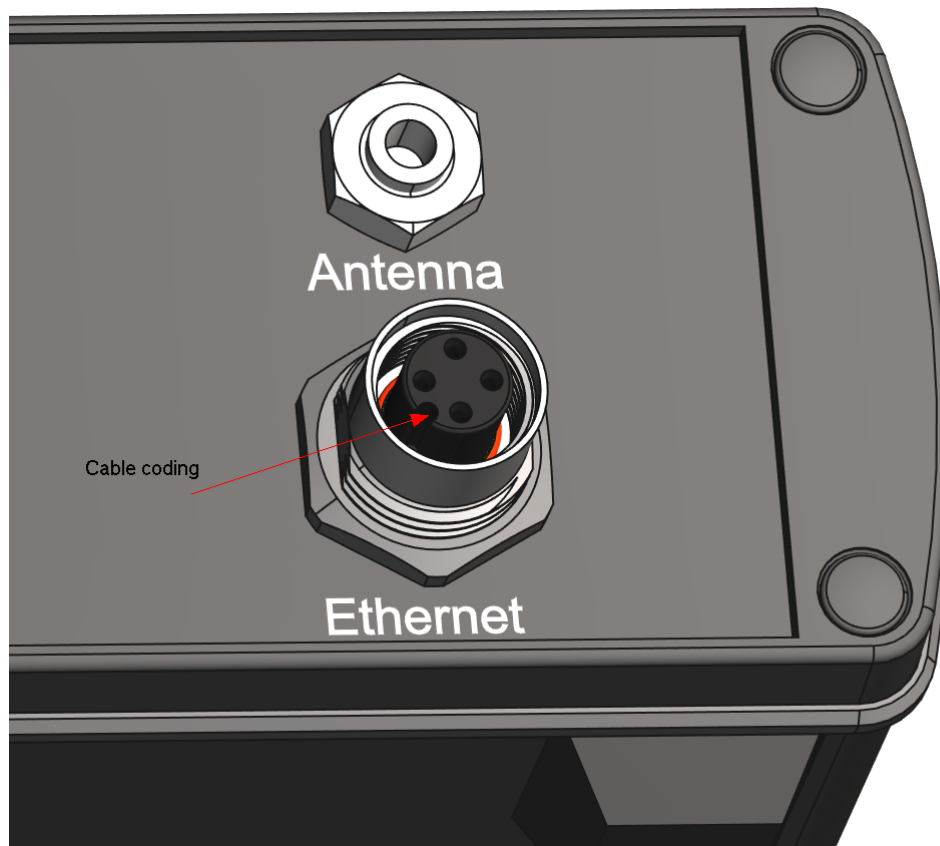

Figure 9: LAN connector
**IMPORTANT** Ensure the cable and connector use A-coding for compatibility (see Figure 914).